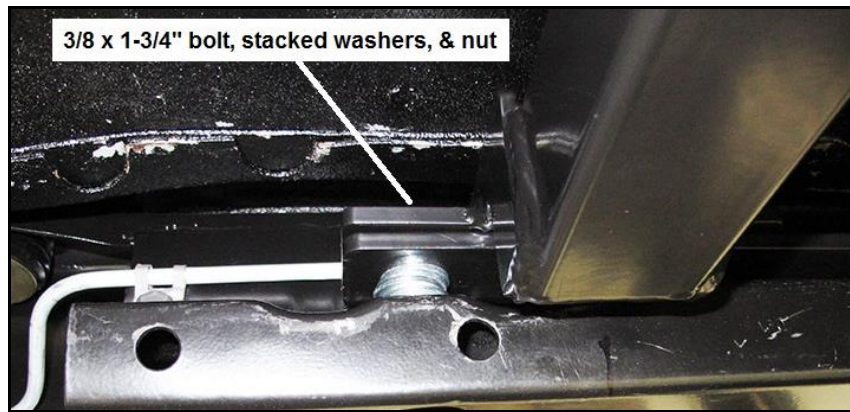

Figure 1 – 1983-87 2004R chassis cars only
4. **1983-88 2004R chassis cars-** Position the frame angle bracket under the left mounting foot of the crossmember and attach them both to the left side frame perch using the supplied 3/8 bolts, washers and flanged nuts as shown in Figures 1 and 2. Once all brackets and fasteners have been configured and aligned as directed in **Figure 1**, tighten all the nuts and bolts across the entire crossmember assembly.
- 4A. Attach the crossmember and angle bracket to left frame perch using the supplied 3/8 x 1-3/4" bolt and one flanged nut in the rear holes of both components (**Figure 1**). During installation of the bolt through the components, place the supplied 3/8 washers between the crossmember and frame perch, as needed, to level the angle bracket with the bottom of the vehicle floor. This leveling operation is needed to account for the broad production tolerances and road/collision damage that is common with the frames of these vehicles. Some vehicles will need more washers than others to achieve the same result. Notice that the rear-most hole in the vehicle frame perch is not used for attaching the crossmember.